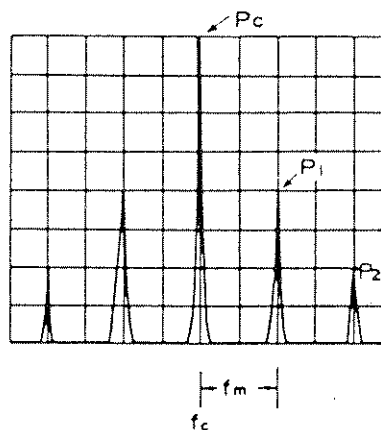

Fig. 6-2 AM Wave Spectrum Display
(2) AM wave measurement
When an AM wave is displayed, as shown in Fig. 6-2, by the measurement procedure described in (1), the carrier frequency f_c , modulation frequency f_m , and their levels P_c , P_1 , and P_2 (dBm or dB μ) can be measured.